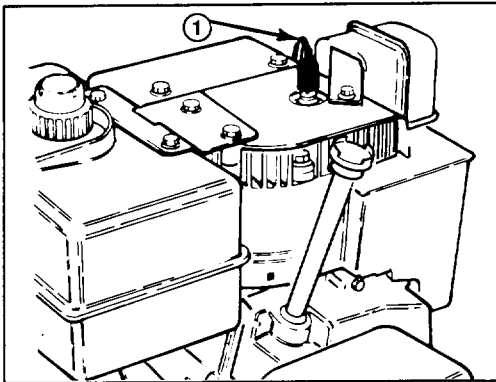

Figure 32
2. Pull wire off spark plug (Fig. 32) and remove plug from cylinder head.